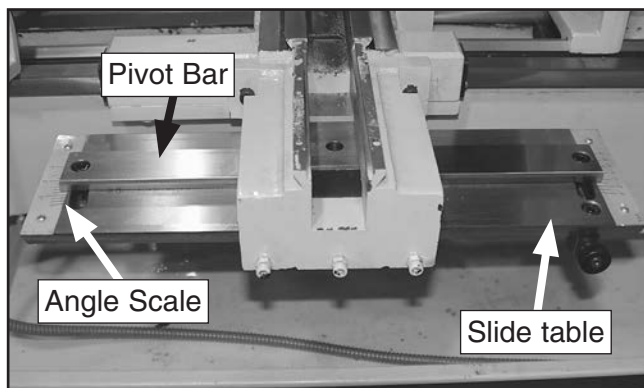

Figure 18. Slide table re-installed.
30. Orient the angle scale of the slide table toward the tailstock, then slide the pivot bar dovetail through the slide block underneath the taper attachment body, as shown in **Figure 18**.